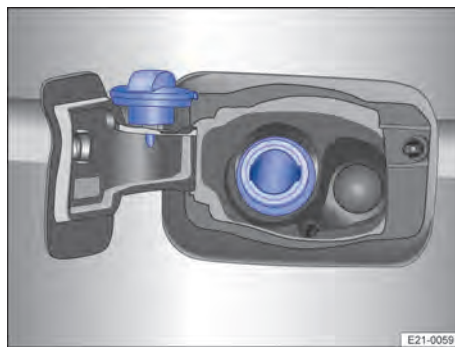

Fig. 163 On the left-hand side of the vehicle: tank flap with open tank cap.
4. Unscrew the tank cap and place it in the opening provided in the tank flap → Fig. 163.